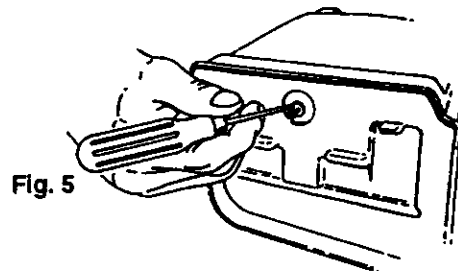

Fig. 5
2. With small screwdriver, work rubber washer into housing (Fig. 5).